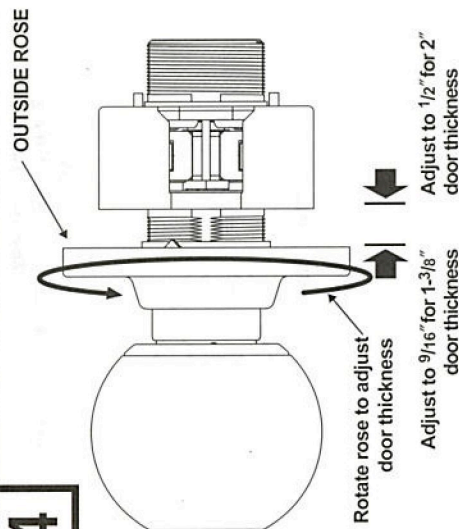

Figure 4.
1. Adjust lock to fit door thickness by rotating outside rose as shown Figure 4.